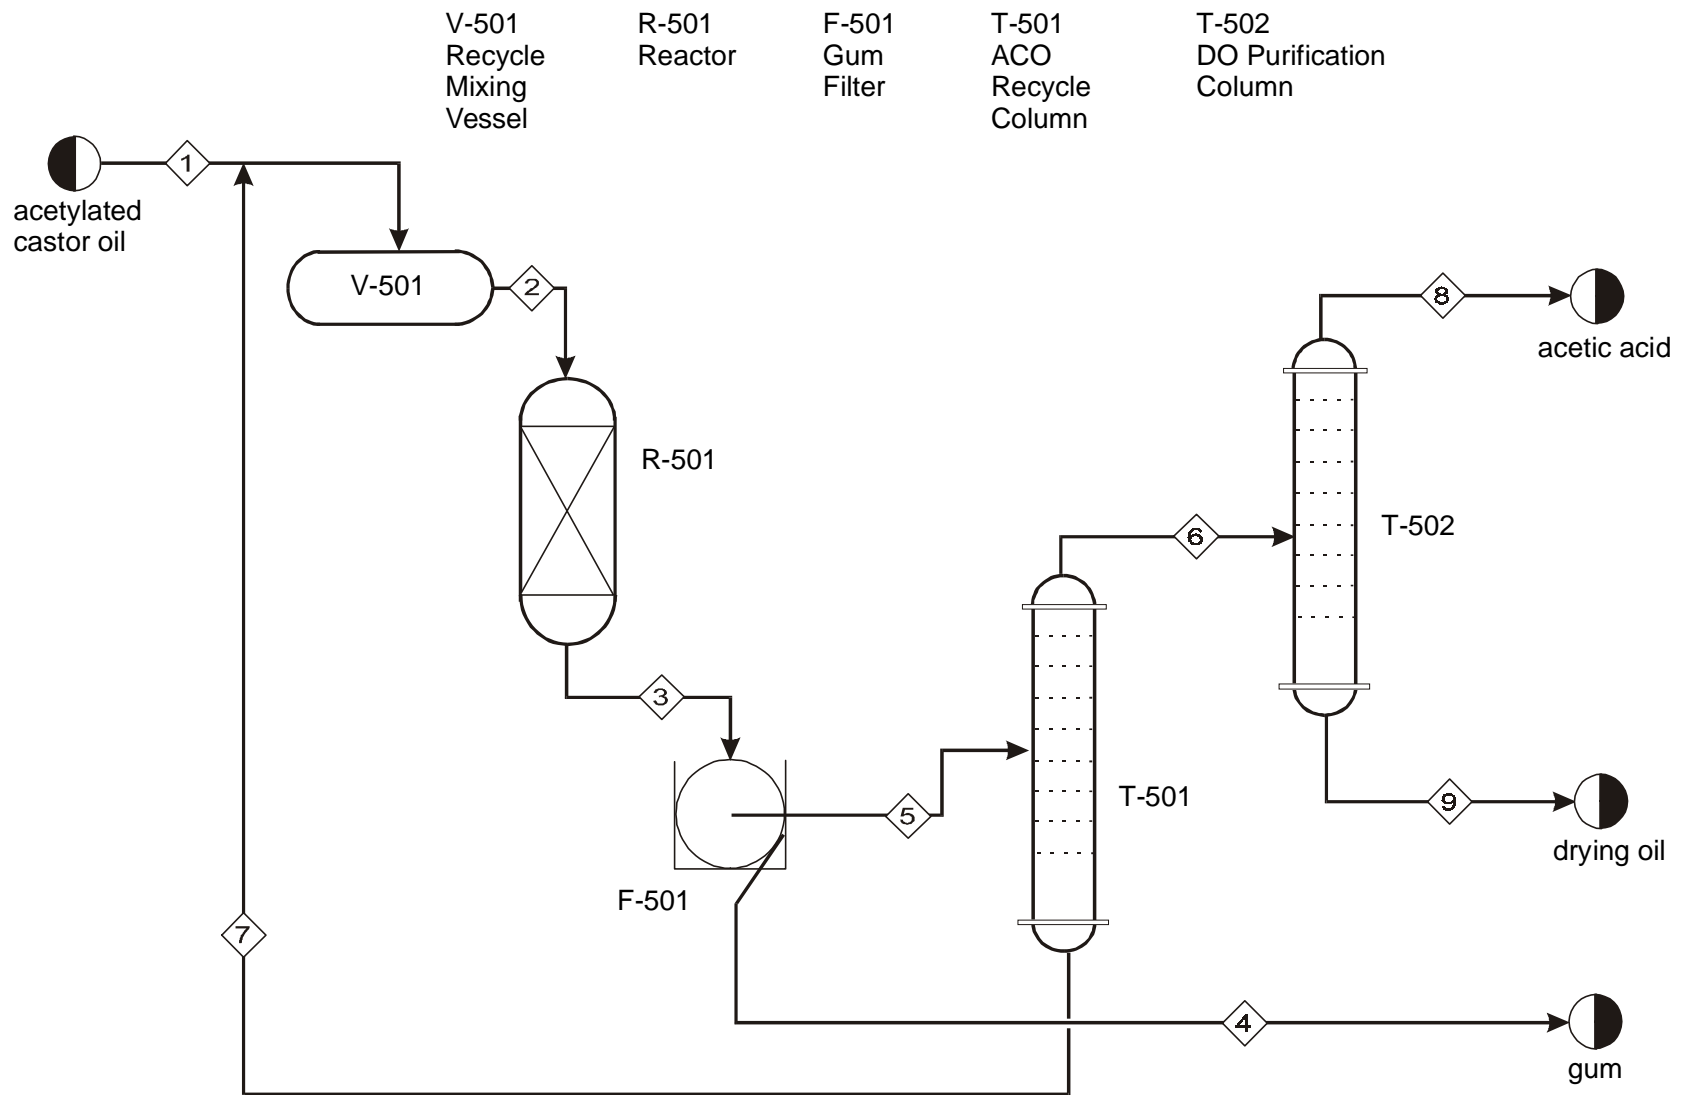

Figure 1: Preliminary Process Flowsheet for Drying Oil Production
The process is illustrated in Figure 1. The acetylated castor oil (ACO) feed is mixed with recycled ACO and is fed to the reactor. In the reactor, reactions in Eqs. (1) and (2) occur. Immediately following the reactor, there is a filter that removes any solid gum formed in the reactor. Following the filter, there are two distillation columns that purify the ACO for recycle, the drying oil (DO) for sale, and the acetic acid (AA) for sale as a by-product.